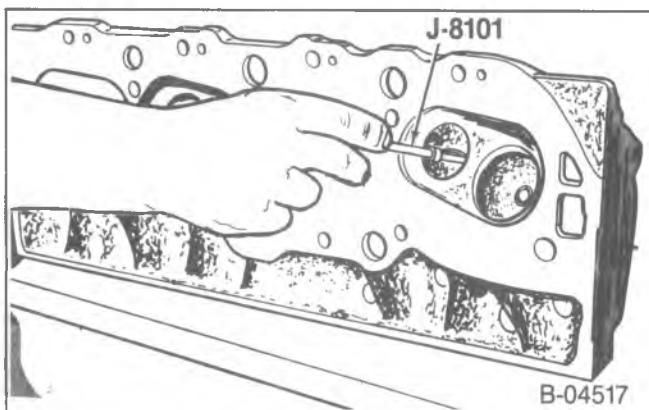

Figure 31—Cleaning the Valve Guides (Typical)
- Valve guides. Use J-8101 (figure 31).